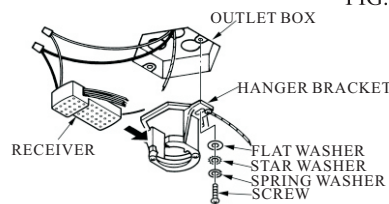

FIG.5
1. Securely attach the hanger bracket to the outlet box by washers and screws supplied.Connect white wire from ceiling to white wire from receiver with wire nut. Connect black wire from ceiling to black wire from receiver with wire nut. (See fig.5)